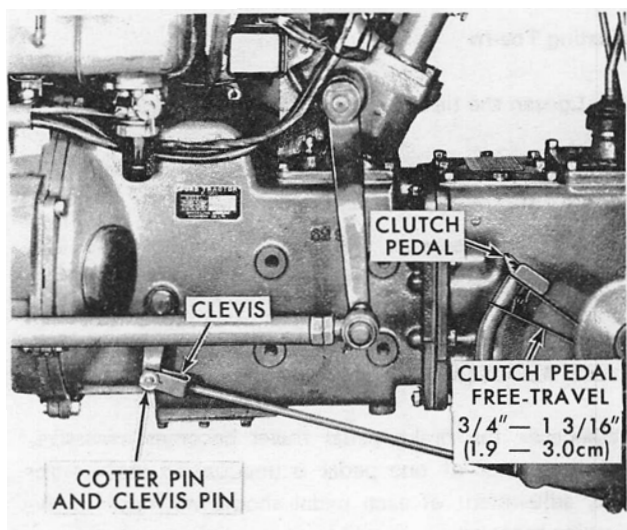

Figure 41
1. Remove the cotter pin and clevis pin, Figure 41.